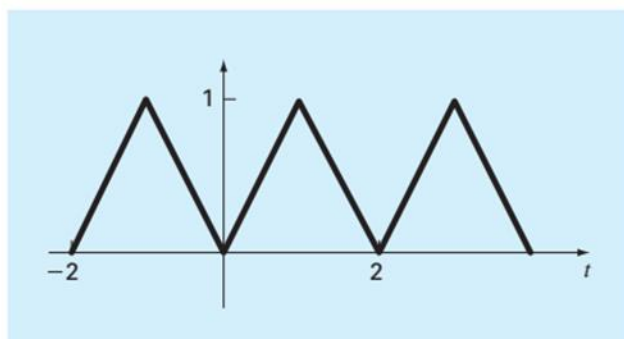

FIGURE P16.6
16.6 Use a continuous Fourier series to approximate the triangular wave form in Fig. P16.6. Plot the first four terms along with the summation. In addition, construct amplitude and phase line spectra for the first four terms.